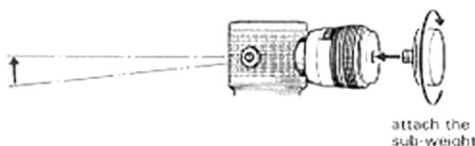

Fig. 21
- If the weight of the plug-in head (head-shell with cartridge) exceeds 21 g (when a cartridge heavier than 9 g is used together with the supplied head-shell), attach the sub-weight at the rear of the main weight as shown in Fig. 21 and adjust the stylus pressure. In this case, the counterweight scale is changed. Use the following conversion table to obtain the specified stylus pressure.